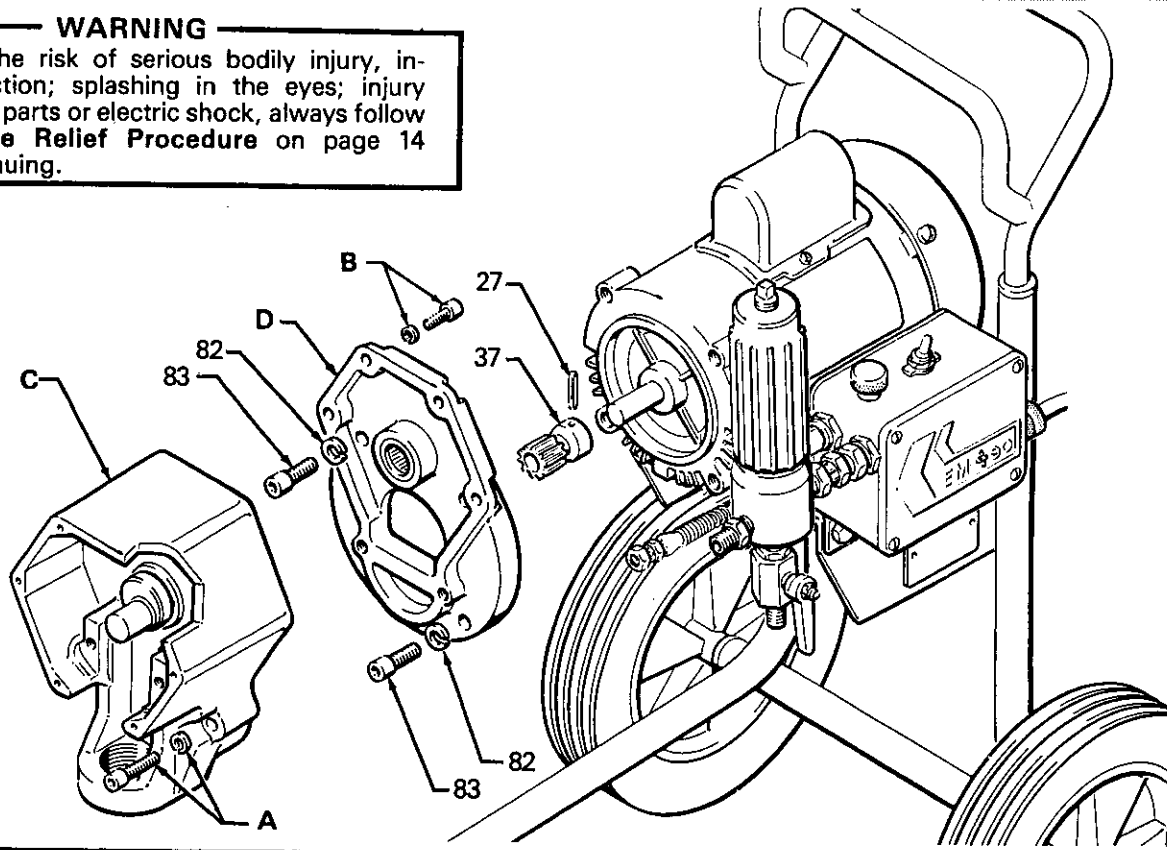

Fig 19
Remove screws, lockwashers (A&B) and drive housing (C). Remove screws, lockwashers (82 & 83) and motor housing (D). See Fig 19.